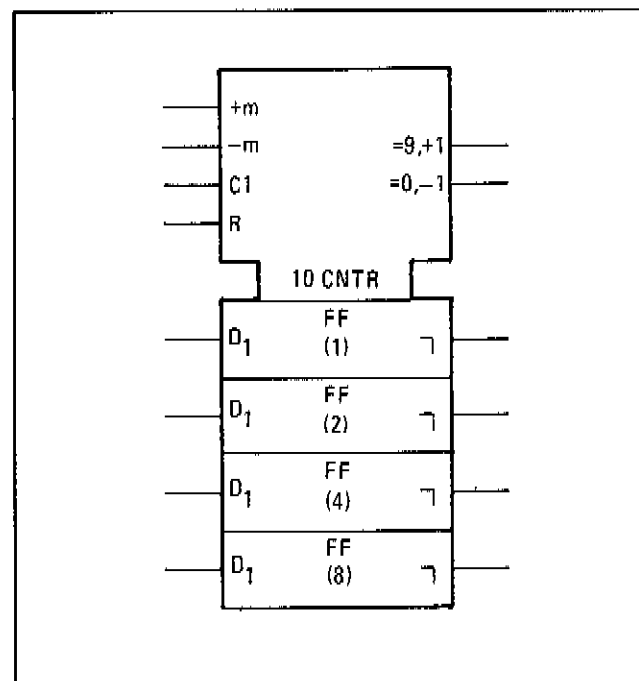

Figure 8-18. Up-Down Counter Example
**8-75. Up-Down Counter Control Block.** The counter control block (Figure 8-18) is used to show the common inputs to a Presettable Decade Up/Down Counter. Notice that " $+m$ " means count up (increment the count) by "m"; " $-m$ " means count down by "m". Note that if  $m=1$ , "m" may be omitted. Since the D-type flip-flops are master-slave, the output delay indicator is used. The " $=9$ ,